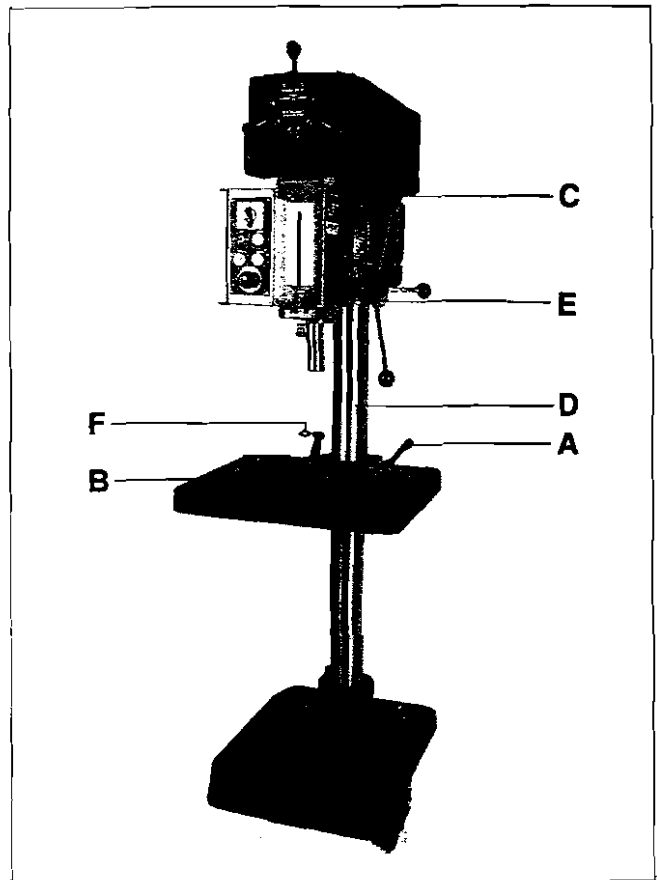
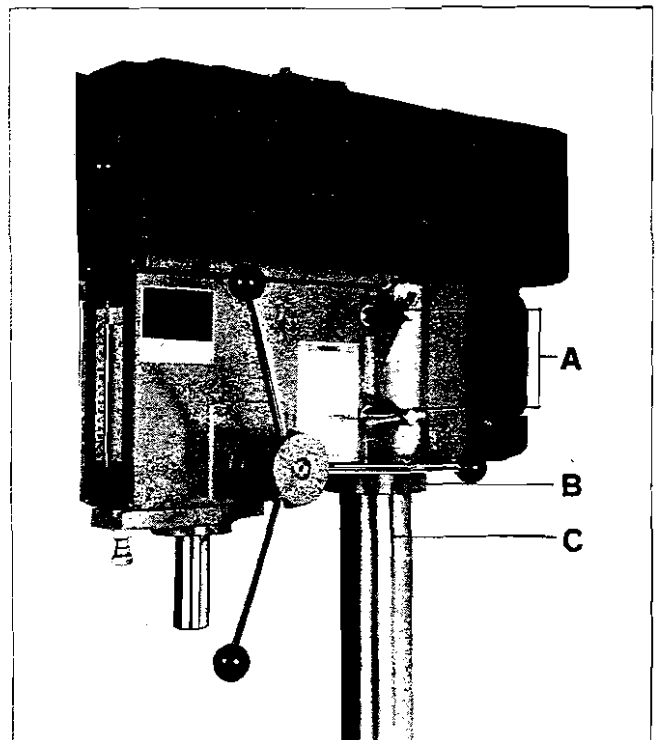

Fig. 1
Fig. 2
1. Loosen table lock (A). Fig. 1.
2. Cut a 2"x4" approximately 16" in length. Raise table (B) and place 2"x4" between table and head (C) as close to the column (D) as possible. **Caution:** do not place 2"x4" under lock collar (E).
3. Using table lift crank (F), raise head to the point where head bore and column are flush. **Caution:** Do not raise head any farther or it may fall off column! A ladder will be needed to observe the column through the top of the belt cover.
4. Tighten two head locking bolts (A), Fig. 2. This will hold head in place until lock collar can be moved into position. Now 2"x4" can be removed safely.
5. After head is set at desired height, loosen two set screws (B) on the lock collar (C). Fig. 2